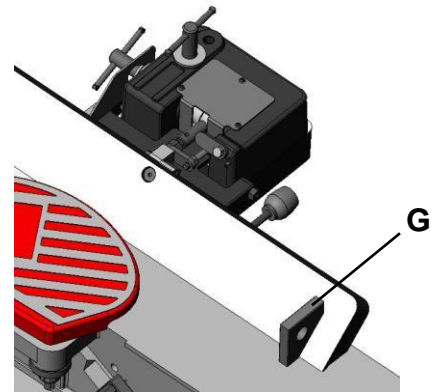

Fig. 28
1. Loosen the lock handle (A). Move the stop plate (D) out of the way and position the fence at the 135° angle. Make sure the fence sits against the stop bolt (E).
2. Tighten the lock handle (A).
3. Place an angle measuring device on the table and against the fence to confirm a 135° setting (G. Fig. 28).
4. To adjust, loosen the lock nut (F), turn the stop bolt (E) until a 135° angle is obtained.
5. Tighten the lock nut (F).